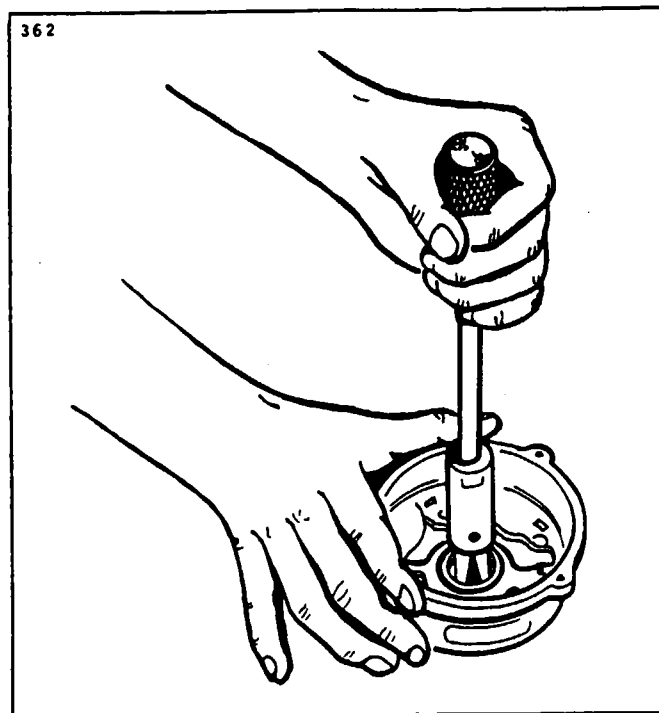

Figure 11-6. Removal of Slip Ring End Bearing
- c. Use a puller, as shown in Figure 11-6, to press the rotor shaft out of the slip ring end bearing. Separate the drive end head and rotor, as a unit, from the stator and slip ring end head, being careful not to lose the brush springs while separating the units.